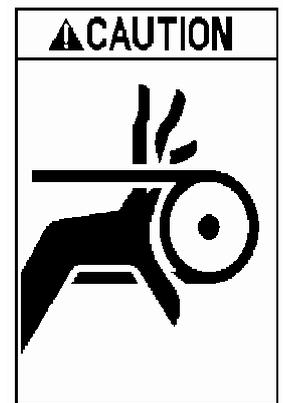

Figure 1-2
2. “Rotating Belt” Warning sign Figure 1-2 on machine belt. It is a warning sign for turning danger. Do not let your clothes or hands crushed by the moving part. Before repairing, verify that the machine is shut down.